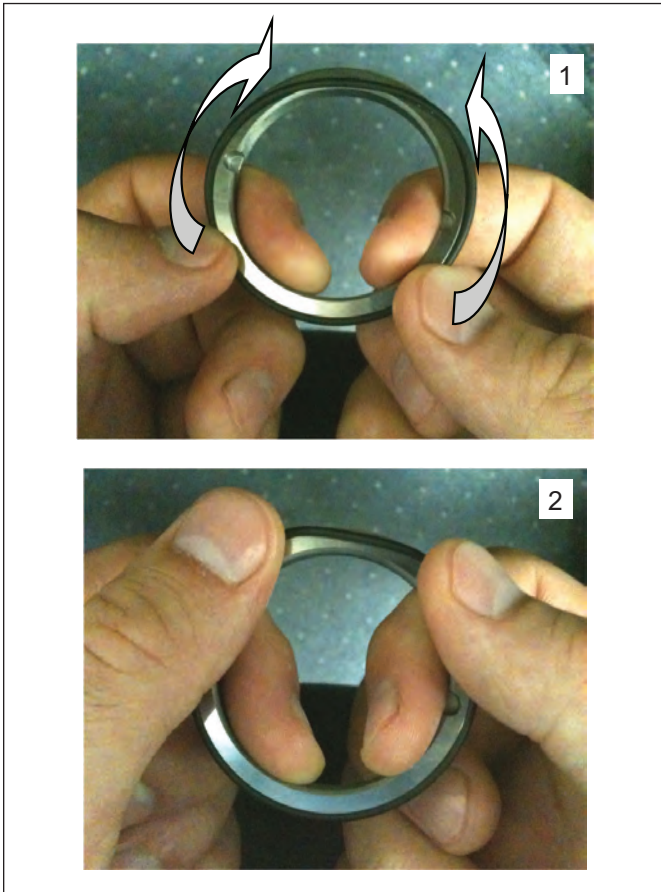

Figure 29. Installing the Rotating O-Ring
- 3. Next install the rotating o-ring onto the rotating seal by stretching it (not rolling) onto the rotating seal (Figure 29).